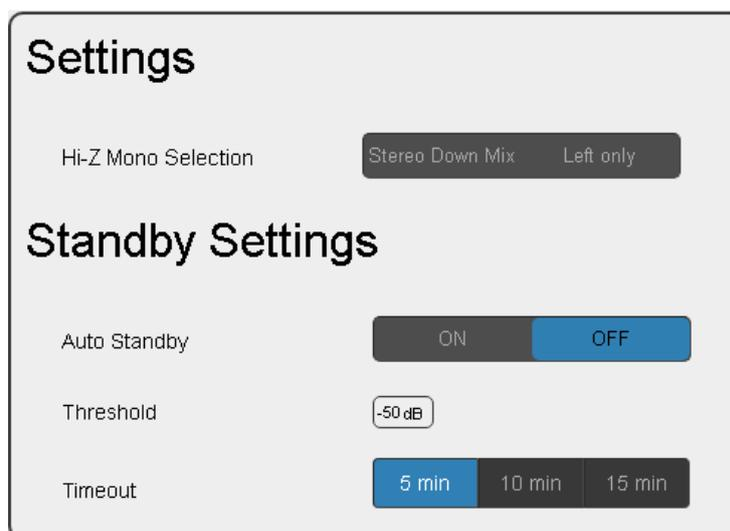

Figure 17: Audio Settings Page
1. In the Navigation pane, click **Audio Settings**. The Audio Settings page appears (Figure 17).